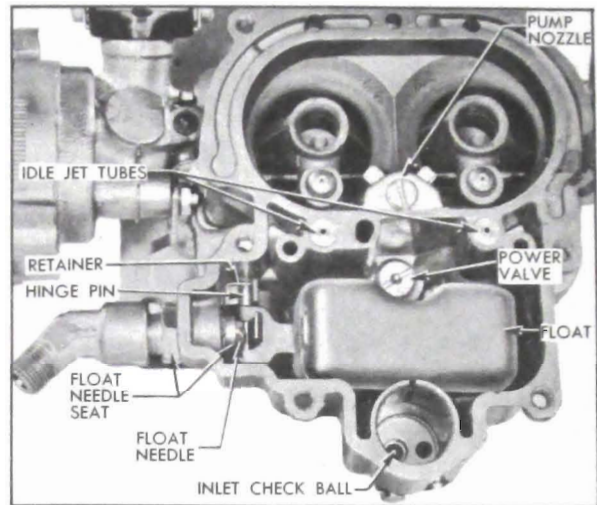

Figure 3-71—Main Body Parts
8. Remove float needle seat and elbow fitting together with gasket and float needle. Remove float retainer, float, and hinge pin. See figure 3-71.
10. Install idle jet tubes. Install accelerator pump check balls (use new balls if available); place large ball in plunger well and place small ball in discharge well. Install pump discharge nozzle and screw using new washer and gasket. See figure 3-71.